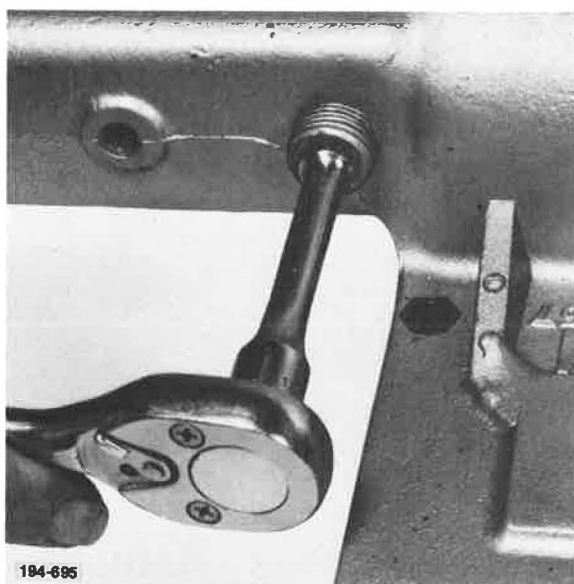

Figure 267. Installing Plug
17. Install interlock plunger plug into shift cover. See Figure 267.